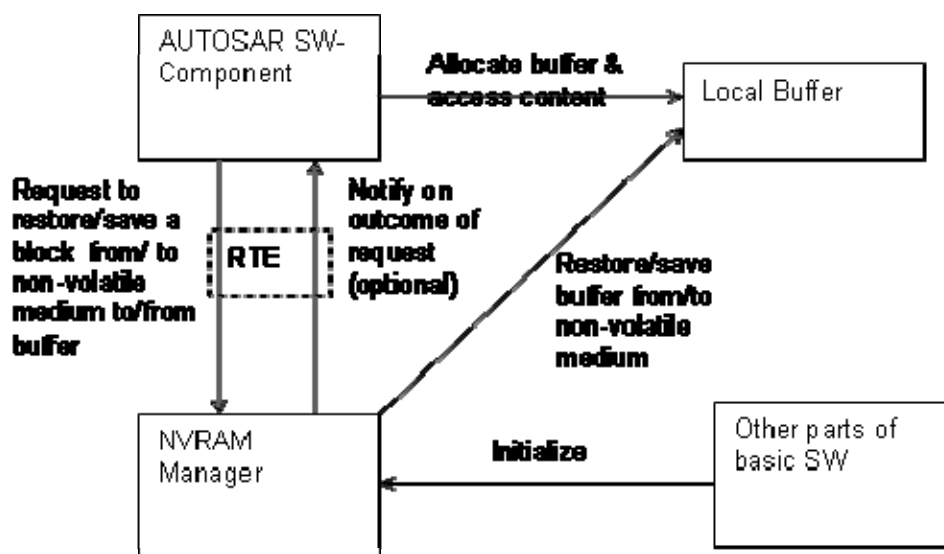

Figure 23: Explicit update/restore of RAM blocks via buffer
See Figure 23. This is a summary of use cases in which the client explicitly requests to save or restore the content of some transient data, but instead of using a RAM mirror, it passes the address of a buffer which is only temporarily associated with a certain block in NVRAM. Also, we need here direct communication (in the sense of the VFB) between the NvM module and its client. Also in this case, the NvM module does NOT communicate with its client via the RAM blocks.
- On the states (of the ECU and/or the client component) in which the client may request to restore or save RAM blocks. For this contract, it is essential that the client is informed about its activation/termination or relevant ECU states. This communication path has to be handled by the RTE in cooperation with the ECU State Manager (not visible in Figure 23).